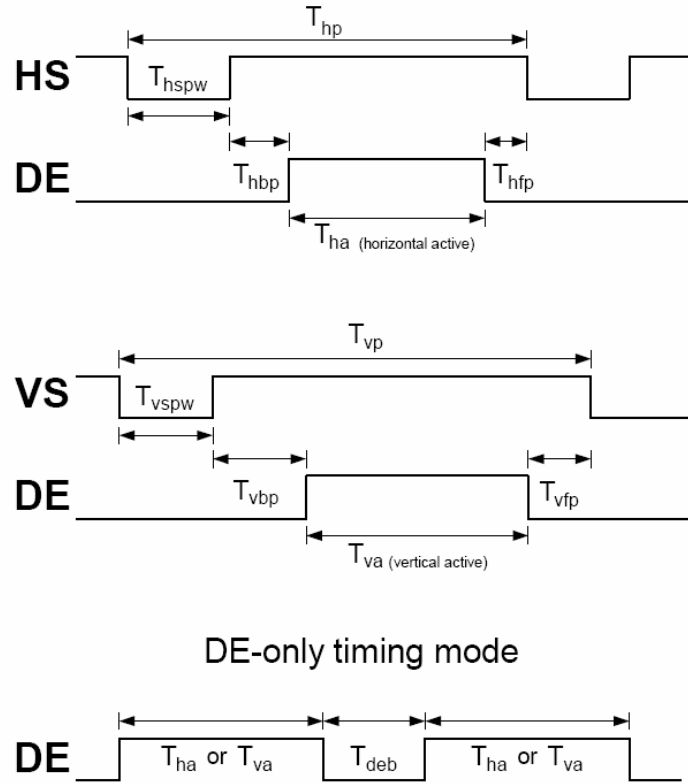

Figure 5-5 - Timing Diagram for DE, HS and VS
- Figure 5-5 shows the timing diagram for DE, HS and VS.